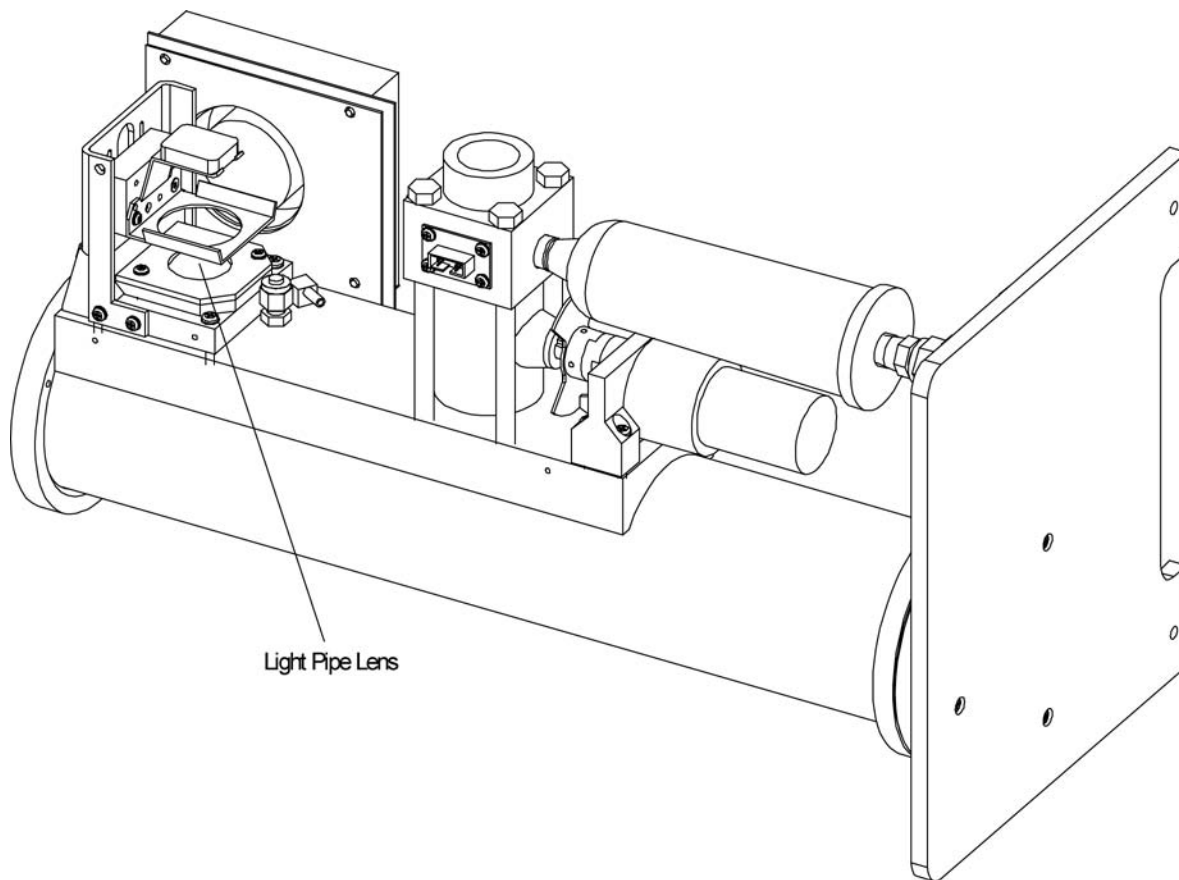

Figure 8-15
5. Locate the light pipe lens below the lamp socket. Use the cotton swab and alcohol to clean the lens (Figure 8-15).